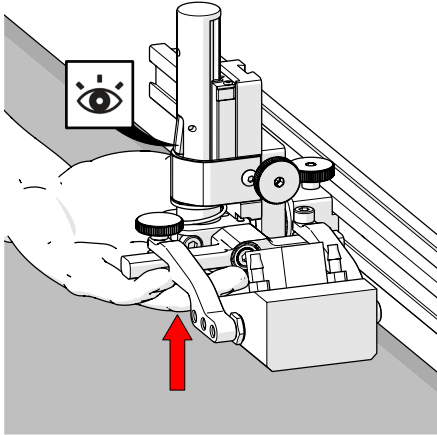
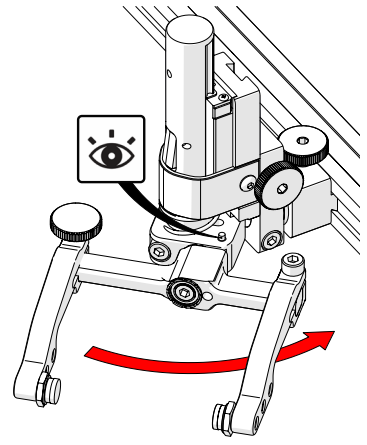

Fig. 65 - Latch probe holder
Fig. 71 - Stop post locates 90°
1. Ensure the probe holder is in the latched upper position. Do this by lifting the probe holder till the latch is fully exposed and snaps out to lock (Fig. 65).
1. Ensure the probe holder is in the latched upper position (*Fig. 65*).
To return the transverse adjustment to neutral (90°). The probe holder must be in the latched, upper position (*Fig. 65*). Rotate the yoke until the stop post contacts the base of the probe holder (*Fig. 71*). Then tighten the transverse adjustment screw.
1. Ensure the probe holder is in the latched upper position (Fig. 65).